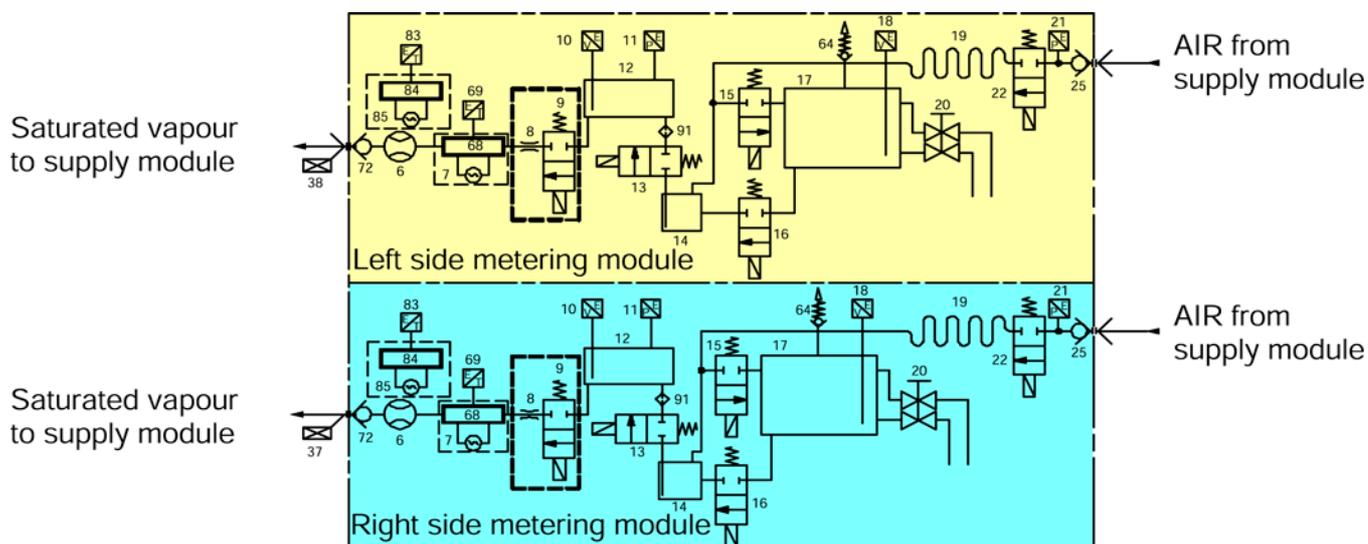

Figure 17 Metering module gas flow diagram
The metering module is an anaesthetic-specific unit. In order to provide users with maximum possible flexibility, the metering module is of plug-in design and so can be exchanged by the user. When the metering module is not connected to the supply module the gas inlet and outlet of the metering module are closed by the spring-loaded closure valves (25) and (72) (Figure 17). All digital valves and the flow control valve are also closed.